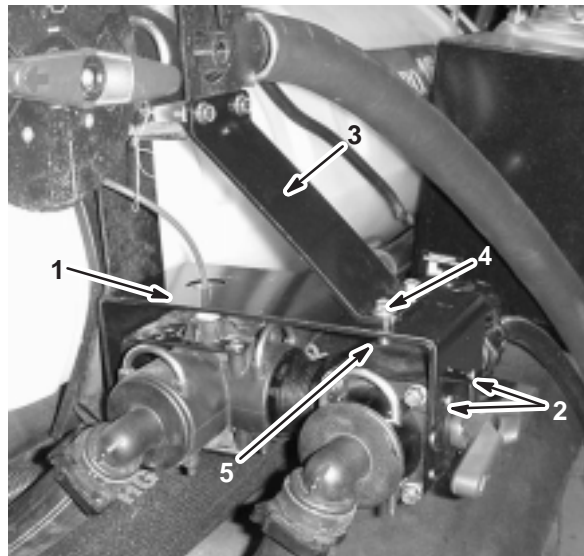

Figure 10
6. Install the control valve bracket over the supply tee and control valve and between the supply tee bracket and the vehicle (Fig. 10).
7. Secure the supply tee bracket and control valve bracket using the bolts you removed in step 3 (Fig. 10).
8. Secure the control valve to the bracket with two Phillips screws (Fig. 10).
10. Install the support bracket as shown in Figure 10, using 4 flange-head bolts (1/4 x 3/4 inch) and 4 flange nuts (1/4 inch).